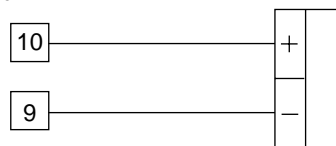

Figure 2. Calibrator Connection
- a) Connect calibrator and instrument as shown in Figure 2.